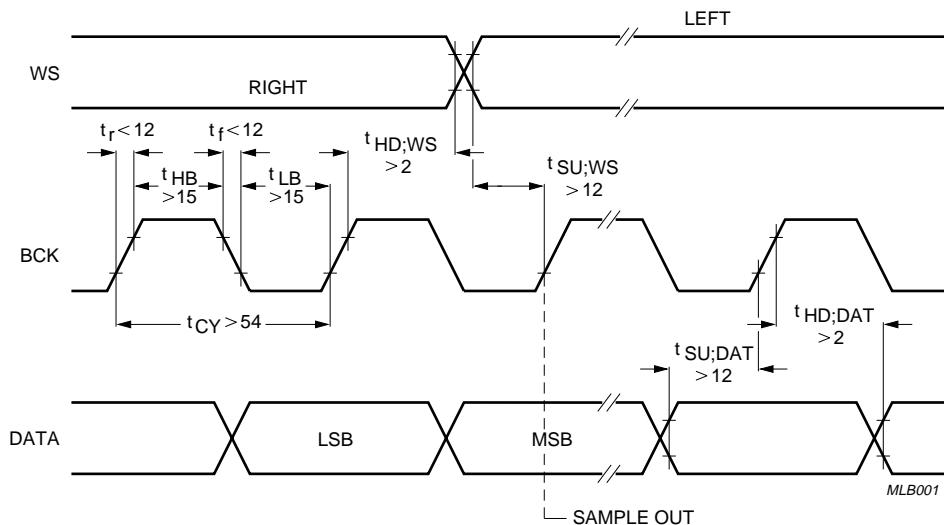

Fig.5 Timing and input signals.
The TDA1545A accepts input serial data formats of 16-bit word length. Left and right data words are time multiplexed. The most significant bit (bit 1) must always be first. The format of data input is shown in Figs 5 and 6. With a LOW level on the word select input (WS) input data is placed in the right input register and with a HIGH level on the WS input data is placed in the left input register.
**Timing (see Fig.5)**